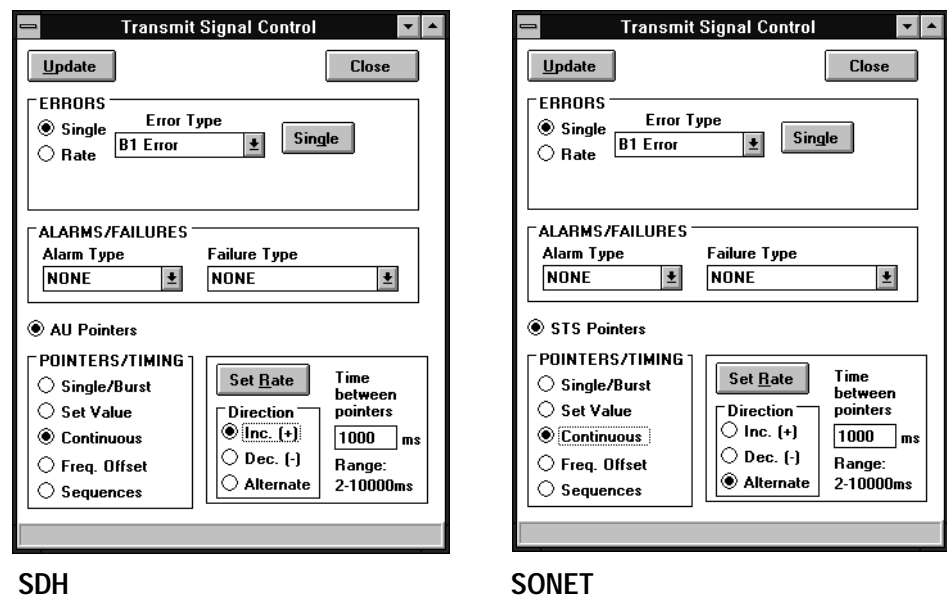

Figure 3–30: The Transmit Signal Control window
To set the VX4610 to make pointer movements, click on the **Err/Alrm/Ptr** command button in the GENERATOR group. This selection displays the Transmit Signal Control window (see Figure 3–30). To update to the current VX4610 settings, click on the **Update** command button in the Transmit Signal Control window.
2. Click on the **Continuous** option button in the POINTERS/TIMING group of the Transmit Signal Control window (see Figure 3–30).